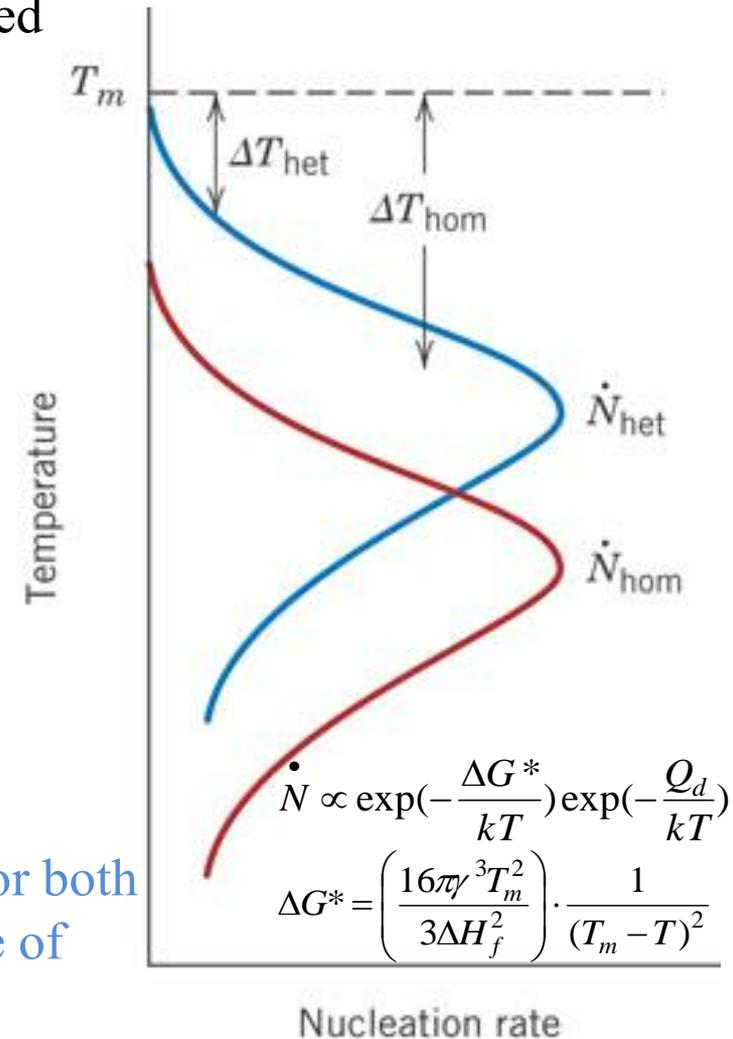

FIGURE 10.7 Nucleation rate versus temperature for both homogeneous and heterogeneous nucleation. Degree of supercooling (ΔT) for each is also shown.
- In terms of the nucleation rate, the \dot{N} -versus- T curve is shifted to higher temperatures for heterogeneous. This effect is represented in Fig. 10.7, which also shows that a much smaller degree of supercooling (ΔT) is required for heterogeneous nucleation.